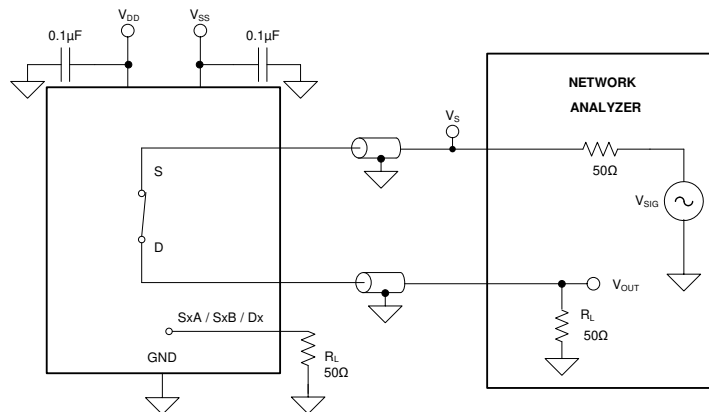

图 25. Bandwidth Measurement Setup
Bandwidth is defined as the range of frequencies that are attenuated by less than 3 dB when the input is applied to the source pin (Sx) of an on-channel, and the output is measured at the drain pin (D) of the device. 图 25 shows the setup used to measure bandwidth.